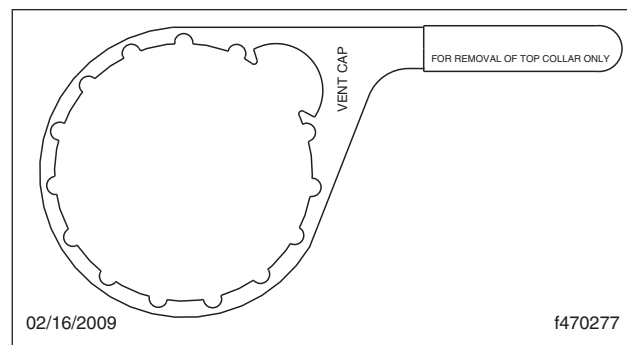

Fig. 3, DAVCO Collar Wrench
5. Using a DAVCO Collar Wrench (Fig. 3), remove the clear cover and collar.
4. Using a DAVCO Collar Wrench (Fig. 3), remove the clear cover and collar.